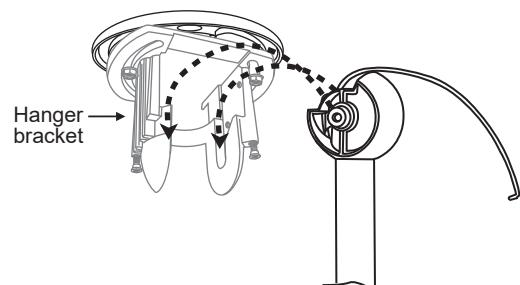
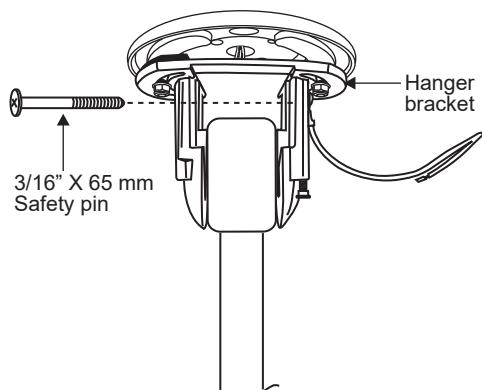

Fig. 12
Fig. 13
NOTE: The Hanger Ball can be installed in ONLY one direction. The "cutout" should be toward the "Lower" end of the ceiling slope. (Fig. 12)
8. Now lift the motor assembly into position with the hanger ball in the position (shown in Fig. 13) and place the pivot pens on the hanger ball into the pivot grooves on the hanger bracket. (Fig 12)
Next, lower the hanger ball until the pivot pens rest in the bottom of the pivot grooves. (Fig 12)
9. Make sure the Safety Pen installed in Fig 12 is installed but NOT tightened. (Fig 13)